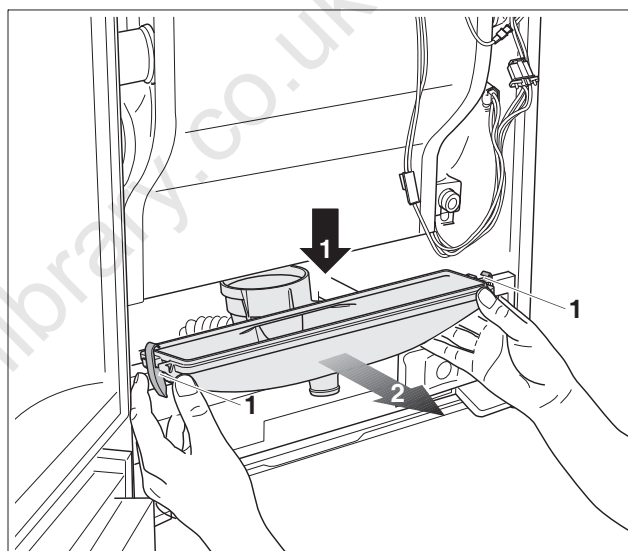

fig. 130 Removing the condensate collector
- Open the 2 clamps on the right and left at the bottom of the condensate collector (fig. 130, **item 1**).
- Pull the condensate collector down (fig. 130, **step 1**) and remove it by pulling it towards you (fig. 130, **step 2**).